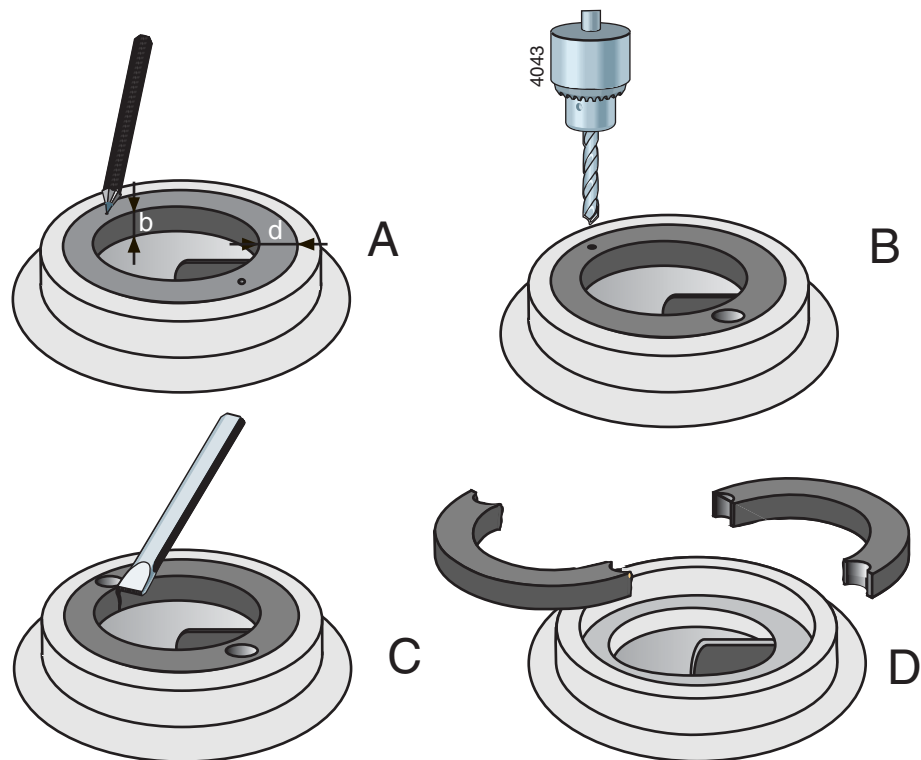

Figure 15: Removal of wear ring.
- 1 Measure the thickness (d) and the width (b) of the ring, see figure 15 A.
- 2 Make a centre hole in the middle of the edge of the ring at two opposite points, see figure 15 B.
- 3 Use a drill with a diameter just a little bit smaller than the thickness (d) of the ring and drill two holes in the ring, see figure 15 C. Don't drill deeper than the width (b) of the ring. Take care not to damage the fitting edge of the pump casing.
- 4 Use a chisel to cut the remaining part of the ring thickness. Now you can remove the ring in two parts from the pump casing, see figure 15 D.